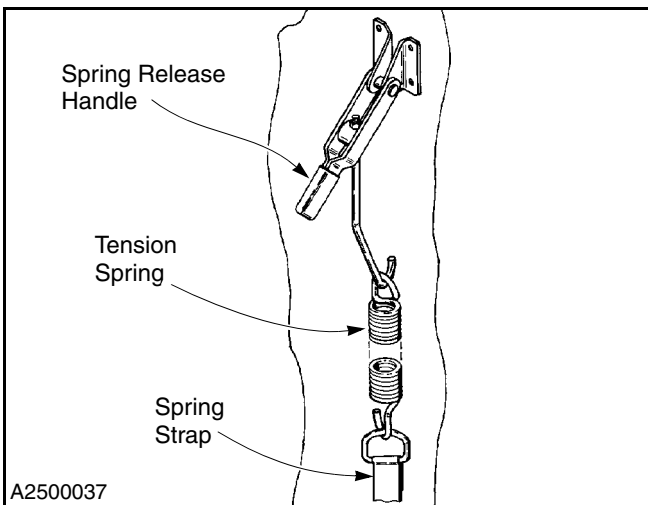

Figure 70
3. Carefully release the tension spring by pulling down on the spring release handle. If the end bracket is in front of the spring tension assembly, release the brake and raise or lower the door as required. (See Figure 70.)